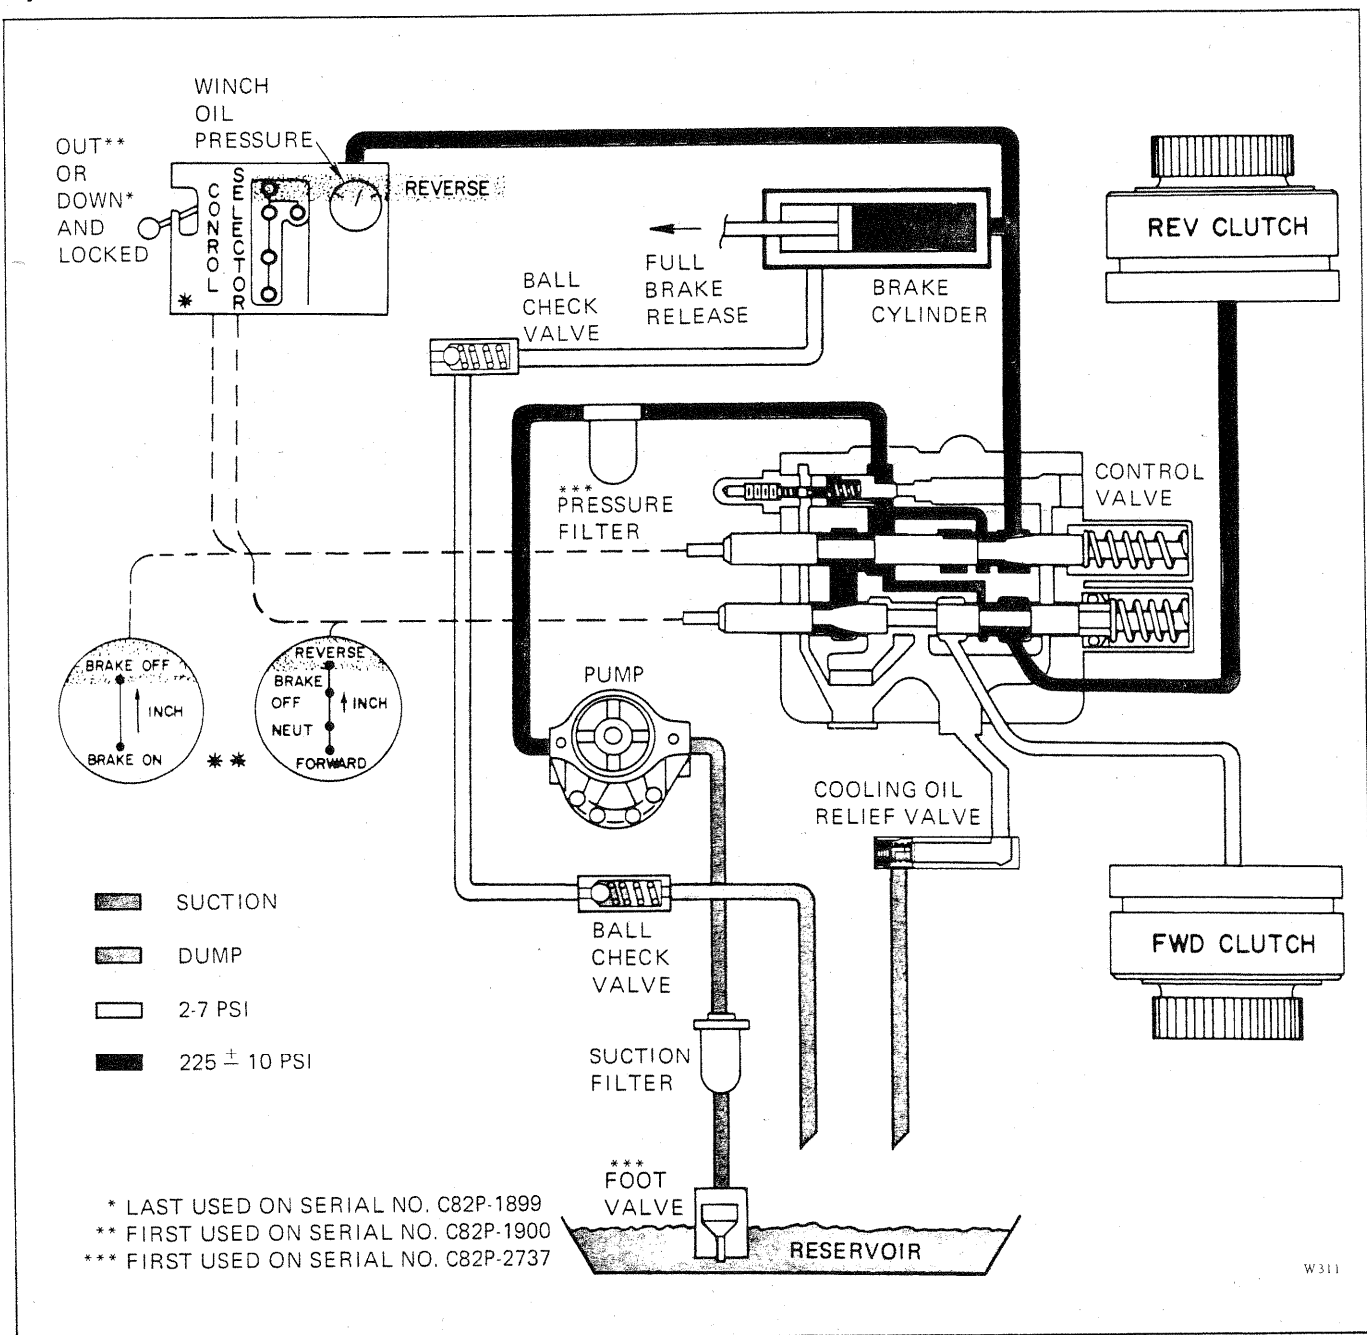

FIGURE 1-20. HYDRAULIC FLOW DIAGRAM, REVERSE, NORMAL OPERATION
1-41. HYDRAULIC SYSTEM IN REVERSE, NORMAL OPERATION. (See Figure 1-20.) On Early Production Handling Gear, the system is placed in REVERSE, Normal Operation by: (1) Moving the Control Lever Down and locking it in place and (2) Shifting the Selector Lever to REVERSE. On the later Production Handling Gear, this is accomplished by: Locking the Inching Lever in BRAKE OFF and (2) Shifting the Selector Lever to REVERSE. When the Control Lever is locked in the Down position or the Inching Lever is locked in the BRAKE OFF position, the inching spool is pulled to its extreme Out position. With the Selector Lever in the REVERSE position, the selector spool is pulled to its extreme Out position. With the spools in these positions, the hydraulic pump draws oil from the reservoir through the suction filter and delivers it to the control valve inlet port. Oil will then enter the control valve inlet and flow past the inching spool